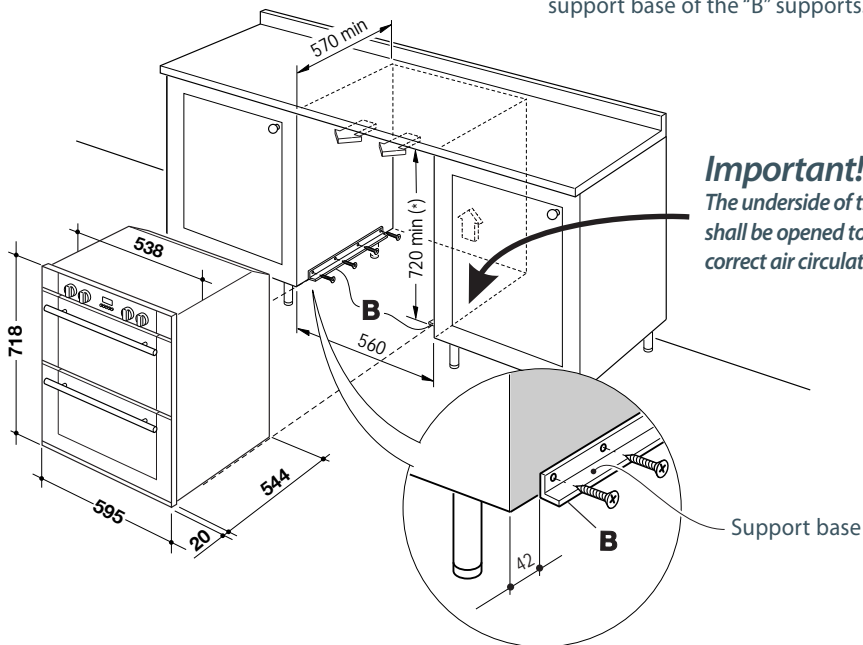

Fig. 2b
- Mount the 2 (two) metal supports "B" (supplied with the appliance in a separate kit) as indicated in Fig. 2b, 3c).